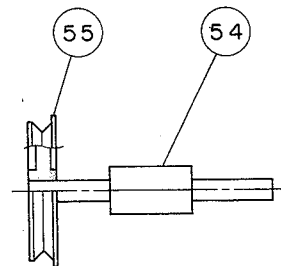

Figure 15
**(C) REASSEMBLY THE WORM GEAR ASSYS, (31) AND (54), WITH FOLLOWING CAUTIONS:**
**1. Worm gear (54) Assy**
Pressing insert the Pulley (55) to the Worm Gear (54) so that the left end of the worm gear will be on the same level as the face of the smaller circle in the pulley (Fig. 15).